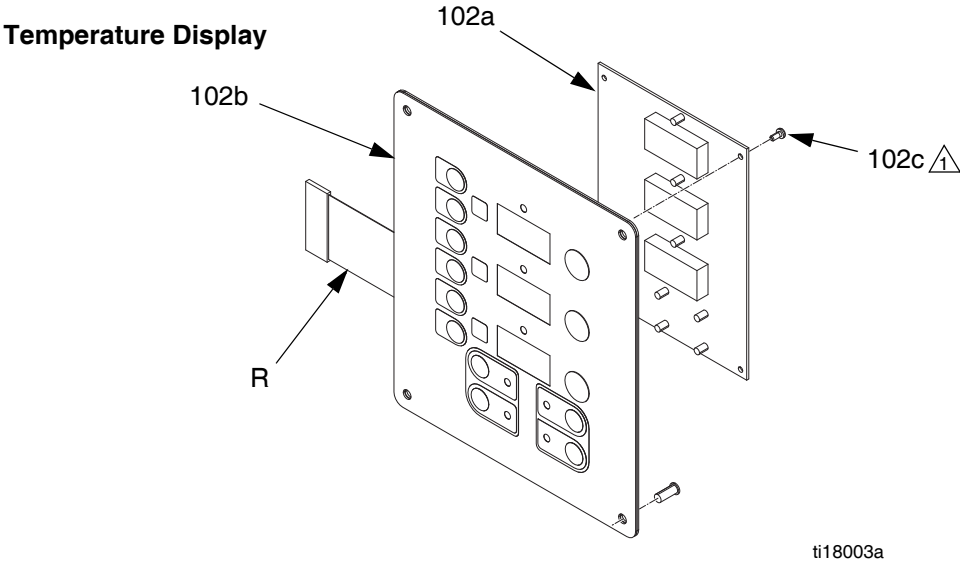

FIG. 15. Display Module
5. Disconnect main display cable (106) at lower left corner of display module; see FIG. 15.
6. Remove screws (116) and cover (105); see FIG. 15.
7. Disconnect cable connector from back of temperature display (102). See FIG. 15.
8. Disconnect ribbon cable(s) (R) from back of display; see FIG. 15.
9. Remove nuts (103) and plate (101).
10. Disassemble display, see detail in FIG. 15.
12. Reassemble in reverse order, see FIG. 15. Apply medium strength thread sealant where shown. Be sure display cable ground wire (G) is secured between cable bushing and cover (105) with screws (107).